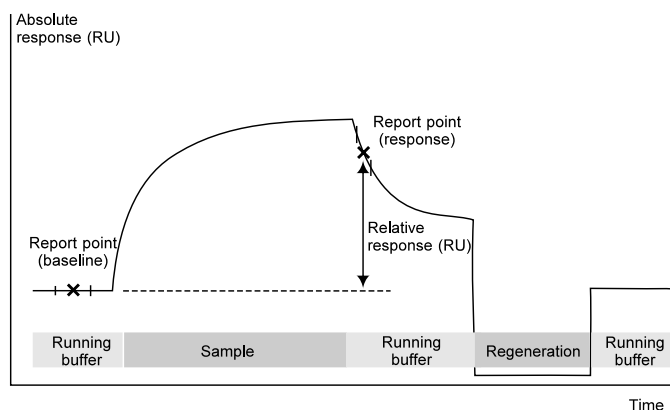

Figure 1-4. Schematic illustration of a sensorgram. The bars below the sensorgram curve indicate the solutions that pass over the sensor surface.
At the end of the sample injection, sample is replaced by a flow of running buffer and bound sample can dissociate from the surface. If the dissociation rate is rapid, sample dissociates completely within a short time and the surface can be used directly for the next analysis. For slower dissociation rates, the surface can be washed with an injection of regeneration solution designed to remove bound sample (Figure 1-4).
- Response is measured in **resonance units** (RU). The response is directly proportional to the concentration of biomolecules on the surface.
- A **sensorgram** is a plot of response against time, showing the progress of the interaction (Figure 1-4). This curve is displayed directly on the computer screen during the course of an analysis.
- A **report point** records the response level and sensorgram slope at a specific time averaged over a short time window. The response may be absolute (above a fixed zero level determined by the detector) or relative to the response at another specified report point (Figure 1-4).